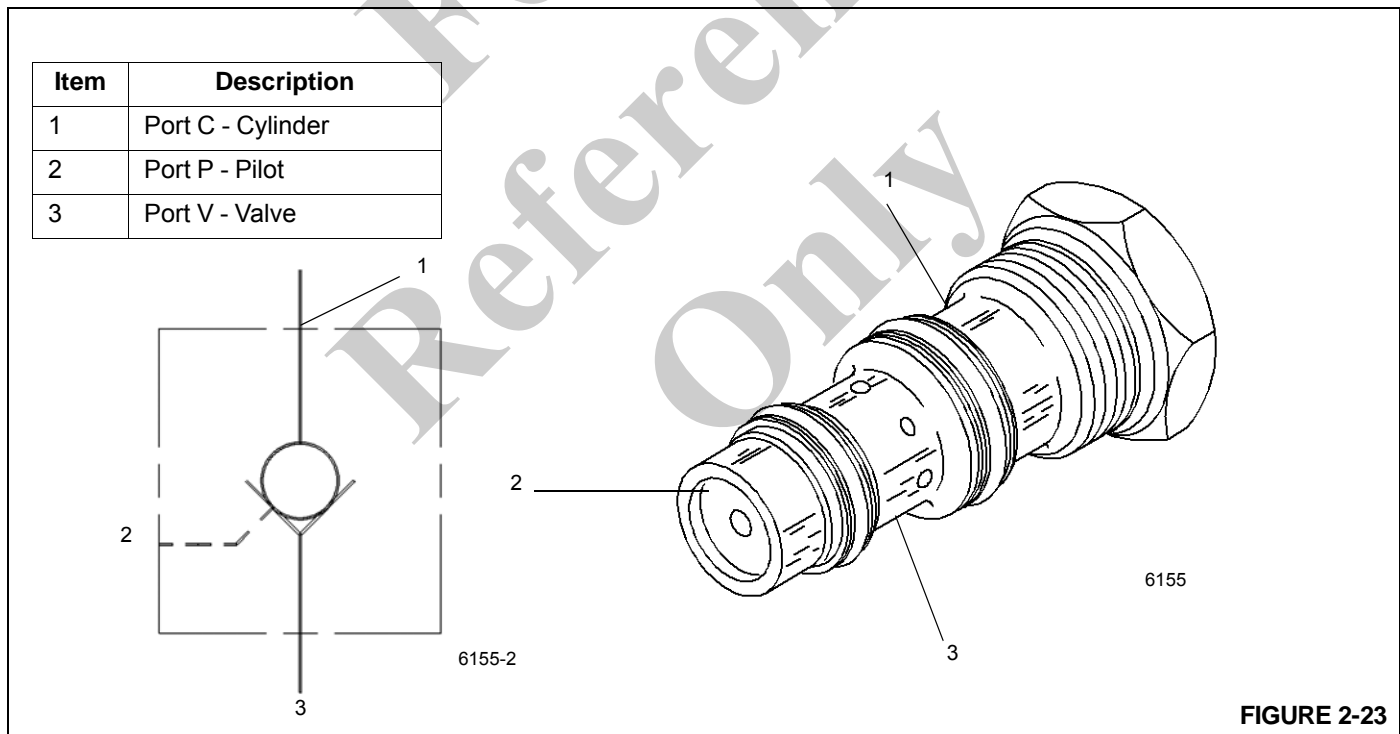

FIGURE 2-23
A pilot operated (PO) check valve is located in each outrigger jack cylinder port block. The check valve functions as a holding valve for the jack cylinder. Oil flow is directed from the "V" port to the "C" ports, while blocking flow in the opposite direction. Flow is reversed from "C" to "V" when pressure pilot oil is applied to the opposite side "V" port (Figure 2-23)